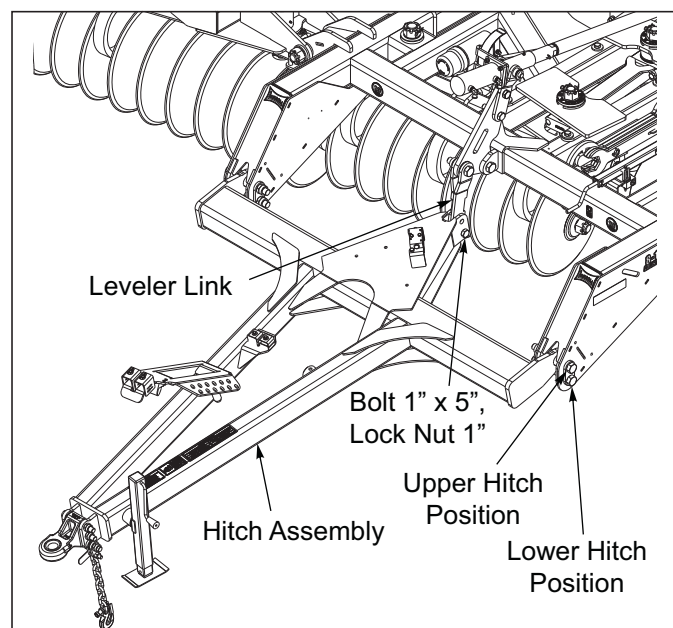

Figure 4-11: Hitch Adjustment
4. To adjust the hitch *See Figure 4-11*